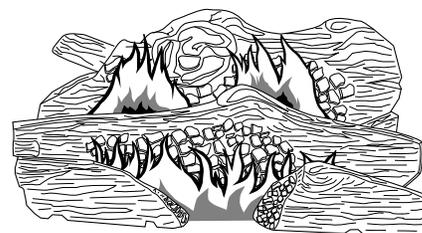

Figure 60 - Typical Flame Pattern
The height of the thermopile must be 3/8" to 1/2" above the pilot flame as shown in Figure 60. The thermocouple must be at a height of about 1/8" above the pilot flame. The flame from the pilot burner must extend beyond both the thermocouple and thermopile.
Figure 60 shows a typical flame pattern for DVFH34(P) models.